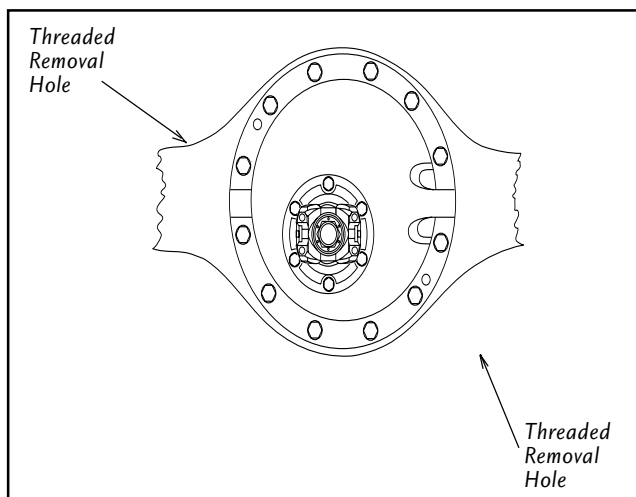

Figure 1
9. Install two 1/2"-13 bolts into threaded holes provided in carrier housing flange. Figure 1. Be certain carrier is balanced properly on jack, and remove top two carrier mounting bolts. Remove differential carrier assembly from the axle housing.